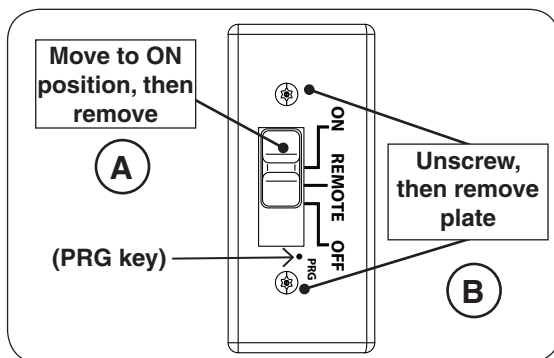
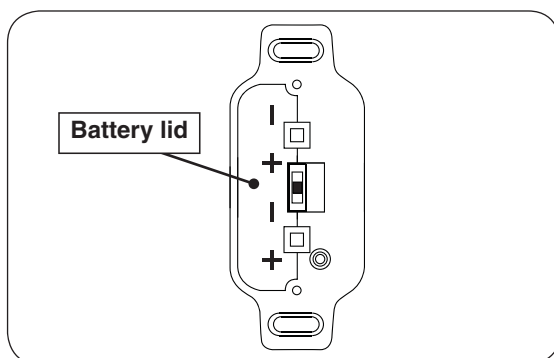

Fig. 55-3 Remove switch and plate for battery access
Fig. 55-4 Receiver battery replacement
Slide the 3-position switch on the receiver to the **ON** position, then remove the switch. Unfasten the plastic plate using a Phillips screwdriver. See Fig. 55-3. Remove the battery lid (push in tabs) and properly insert new batteries as marked (see Fig. 55-4). Re-secure the lid, the plate, the switch, and slide the switch to the **OFF** position. Turn back on the gas to the unit. Be sure to properly re-install all appliance components.
3. Locate the **PRG** key on the receiver (reference Fig. 55-3). Use the tip of a pen or a wire clip to push the **PRG** key. The receiver will beep 3 times indicating that it is ready to synchronize with the remote transmitter.